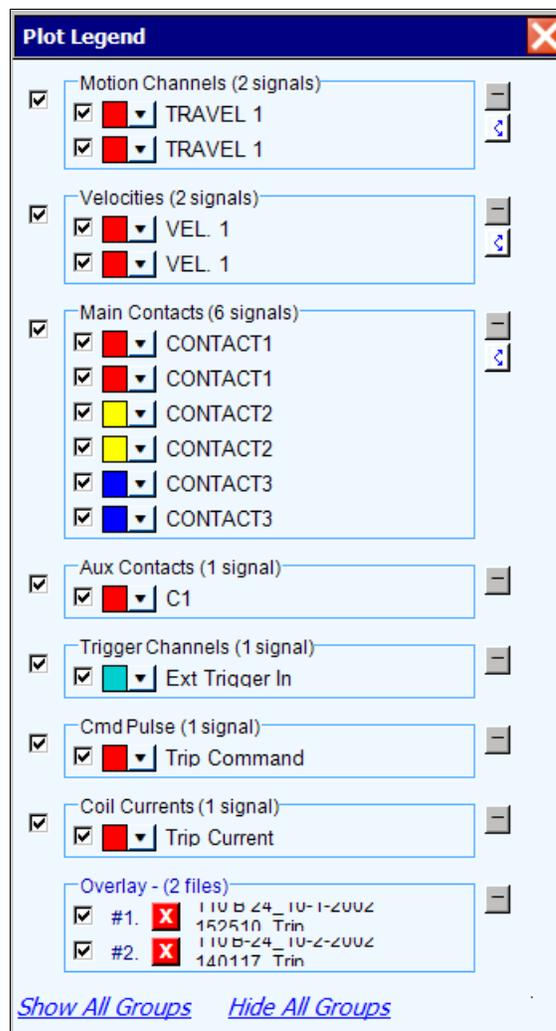

Figure 178 Plot Legend Window for Two Overlaid Signals
The Plot Legend window appears (Figure 178).
- To hide an overlaid set of traces—Deselect the check mark to the left of the filename in the Overlay section of the Plot Legend window. See Figure 178.
- To remove an overlaid set of traces—Click the red or white X to the left of the filename in the Overlay section of the Plot Legend window. See Figure 178.